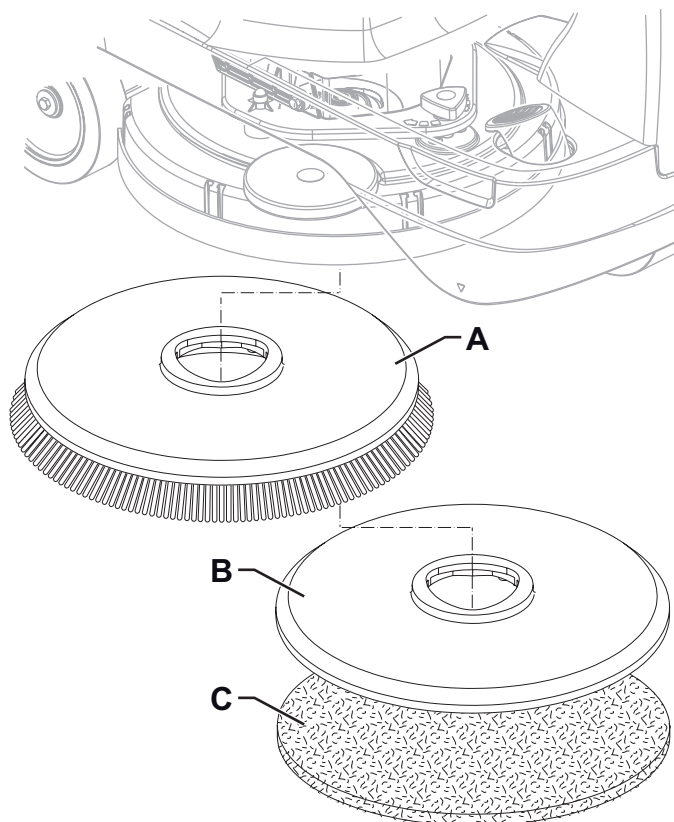

Figure 2
1. According to the kind of cleaning to be performed, the machine can be equipped either with the brush (A, Fig. 2) or the pad-holder (B) with pad (C) together with the appropriate deck.
2. Place the brush (A) or the pad-holder (B) under the deck (7).
3. Insert the operator key (41) in its slot.
4. Press the One-Touch™ button (43) to lower the deck onto the brush.
5. Press the switch (45) to engage the brush.
6. To remove the brush, the deck must be lifted by pressing the push-button (43), then press the release push-button (45).